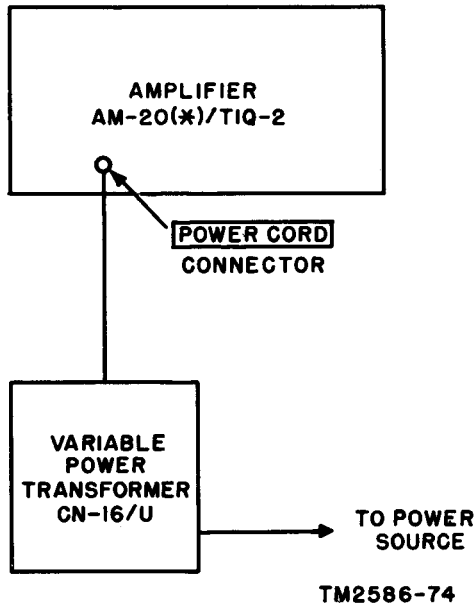

Figure 55. Power connection for amplifier under test.
a. Connect the amplifier as described in paragraph 23. When connecting the amplifier power cord to a power source, connect it to the output receptacles of Variable Power Transformer CN-16/U (fig. 55). Connect the power cord of the variable power transformer to the power source.